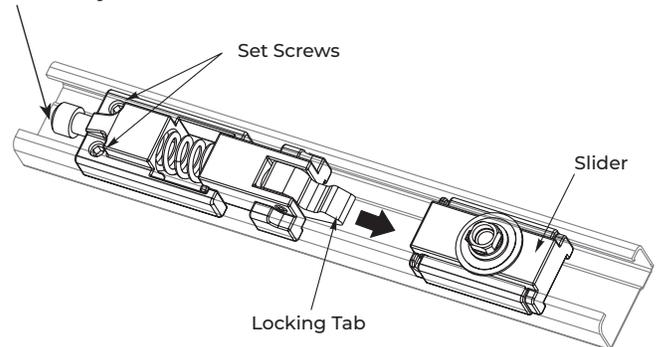

Figure 16
1. Insert locking tab of hold open assembly into track slider. (Figure 16)
3. Tighten hold open set screws to lock down hold open assembly. (Figure 16)
5. Adjust hold open by turning adjustment screw with provided 3/16" hex wrench. (Figure 16)